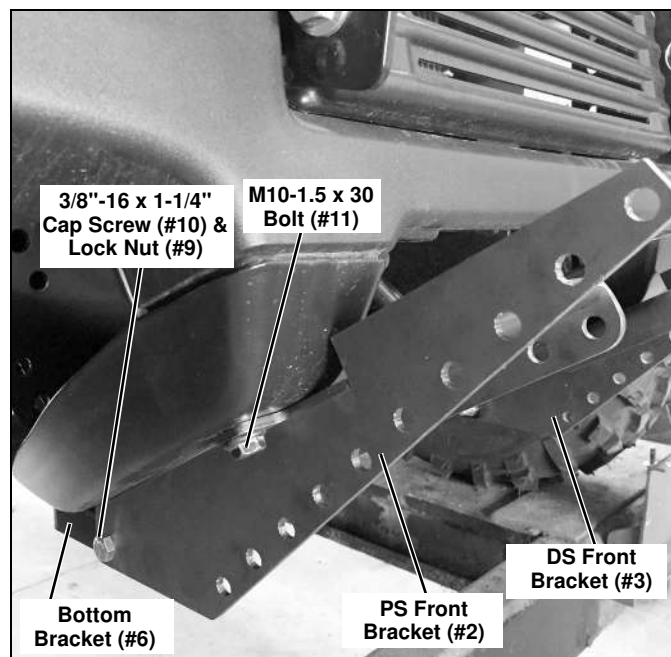

Figure 2
4. Remove two skid plate bolts from the front of the Gator. Place DS (#3) and PS (#2) Front Brackets on the front of the Gator and loosely secure each with (1) M10-1.5 x 30 Bolt (#11) and original Gator nut. (See Figure 2.)
5. Loosely secure each Front Bracket (#2 & 3) to the Bottom Bracket (#6) with (2) 3/8"-16 x 1-1/4" Cap Screws (#10) and (2) 3/8"-16 Lock Nuts (#9). (See Figure 2.)